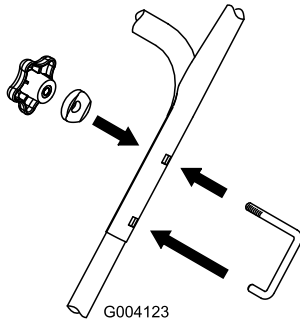

Figure 6
3. Loosely install the handle bolts, curved washers, and knobs (Figure 6).